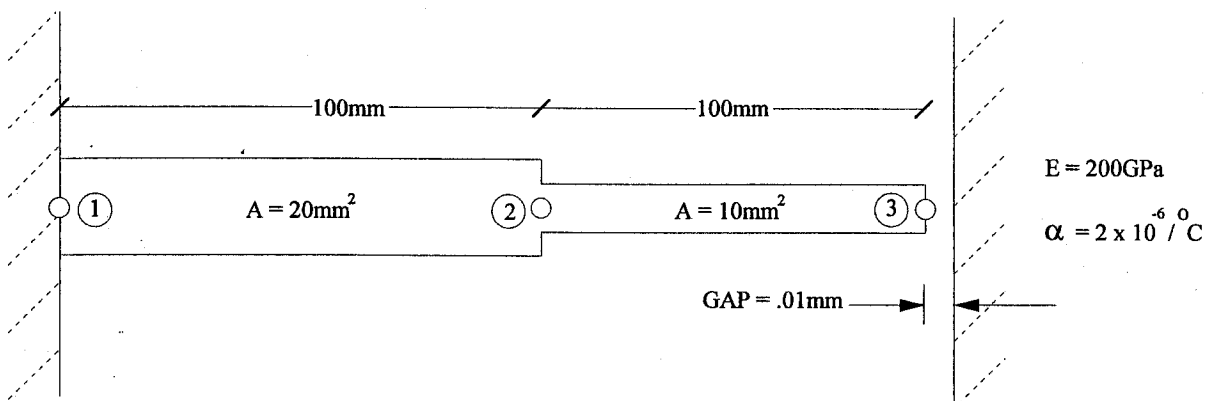

Figure 1
1. A bar composed of two sections is described in Figure 1 and is to be modelled using one truss element per section as indicated.
- (a) Compute the value of the ambient temperature rise in order that the gap at the right hand end is reduced to zero. (10)
- (b) Compute the total displacement of the Node 2 at the location where the cross-section changes due to a total rise in temperature of 200°C (10)